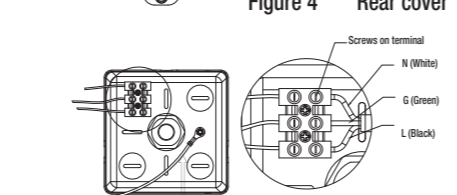

Figure 5
- Connect the live, neutral and ground wires through tube from power supply circuit to the terminal (L-Black, G-Green, N-White), lock the wires by screw driver (Figure 5).